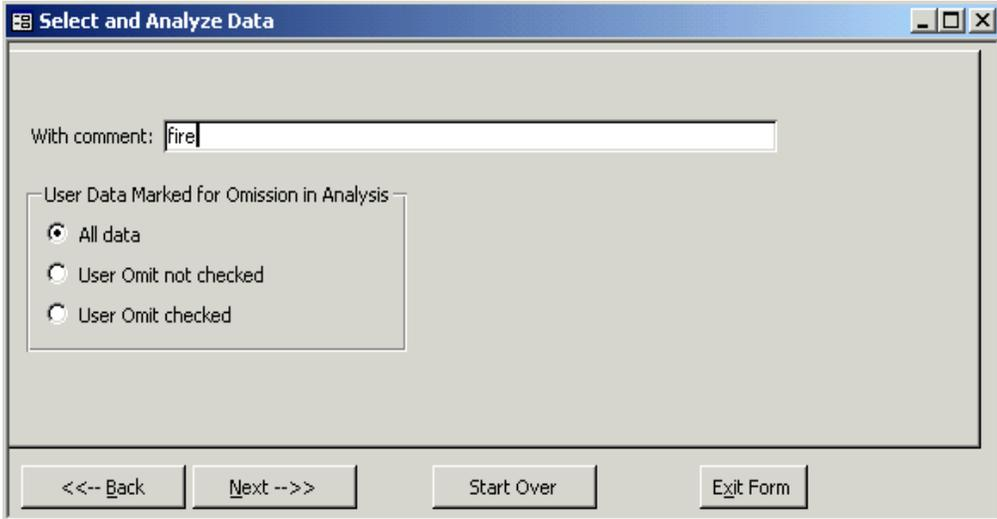

Figure 4-9. Comments form.
- “Next -->,” which indicates that your choices are complete and moves you to the Comments form (Figure 4-9)
The next form is the Comments form (Figure 4-9).
- <<-- Back,” which returns to the Comments form (Figure 4-9) for changing selection criteria